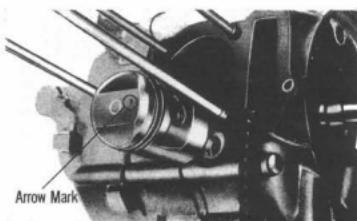

Fig. 35
- When assembling the piston to the connecting rod, make sure that the arrow mark on the piston head is pointing down (Fig. 35).